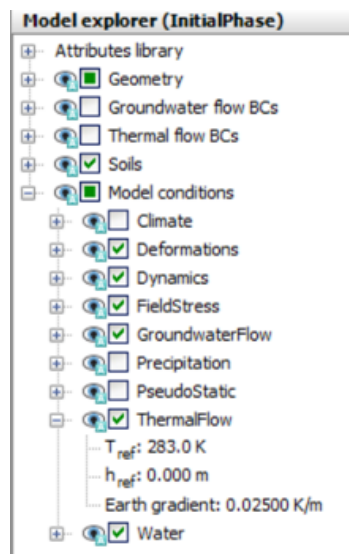
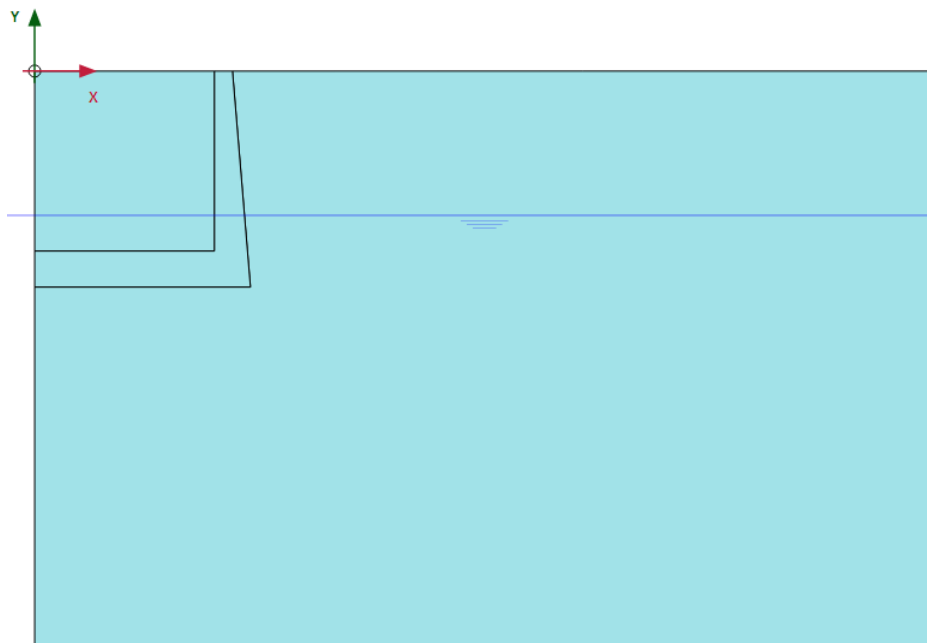

Figure 231: Thermal flow in the Model explorer
Figure 232: Initial phase
5. In the **Staged construction** activate the **ThermalFlow** under the **Model conditions** subtree and set the value for T_{ref} to 283 K. The default values for h_{ref} and **Earth gradient** are valid. The Thermal flow parameters are shown in Figure 231 (on page 262) and the model for initial phase is shown in Figure 232 (on page 262).